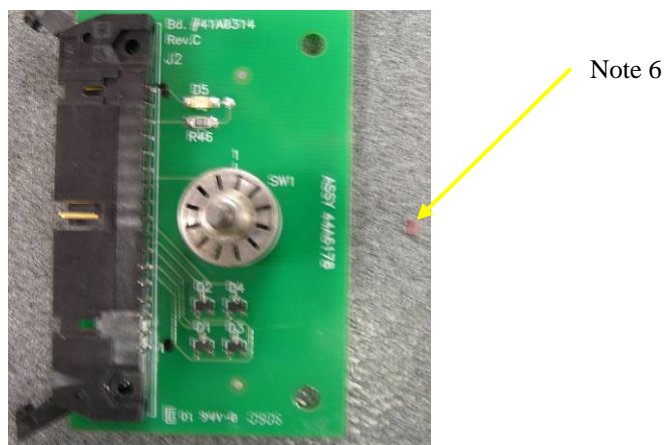

Figure 7: Rotating Switch Pin
- After the Rubber Ring has been removed, turn the switch over and gently tap it on a flat surface, to remove the Switch Stops indicated by Note 6 in Figure 7. There should be two Switch Stops. They are small, flat square metal pieces.